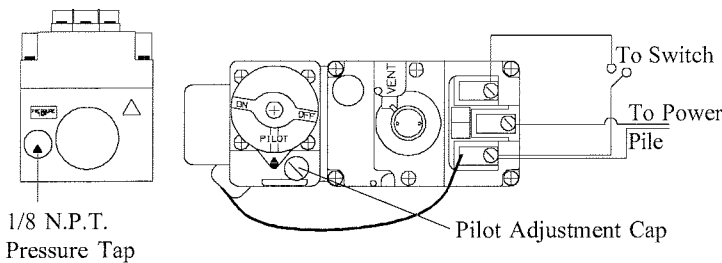

FIGURE 6. GAS CONTROL VALVE
The gas control valve is located behind the grille in the centre of the fireplace (see Figure 6 below). Before lighting the pilot, make sure that the gas line is connected and the gas shut-off valve is turned to the ON position.
- Remove Pilot Adjustment Cap (see figure 6).
Have the fireplace installation inspected yearly, including a visual check of the vent system, the burner and the pilot flame. For your convenience a 1/8" pressure tap is supplied on the gas valve for a test gauge connection. See Figure 6. This appliance requires a minimum gas pressure of 7" W.C. for natural gas. Always keep the fireplace area clear and free of combustible materials, as well as gasoline and other flammable vapours and liquids. Use a vacuum cleaner or whisk broom to keep the control compartment, burner, and firebox free from dust and lint. Logs may be cleaned periodically with soap and water to remove soot and other contamination.
Pilot won't ignite	Disconnect remote wires and try to light pilot. If pilot now works, remote connections are faulty. Check wiring diagram figure 6.